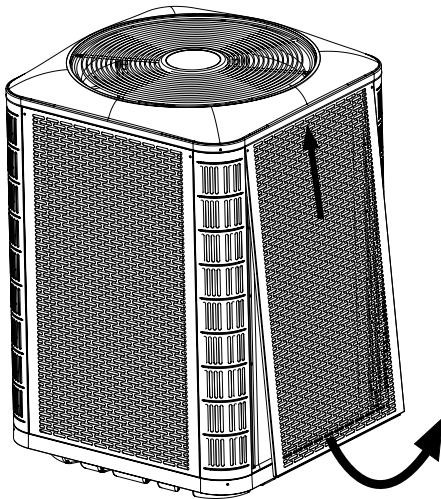
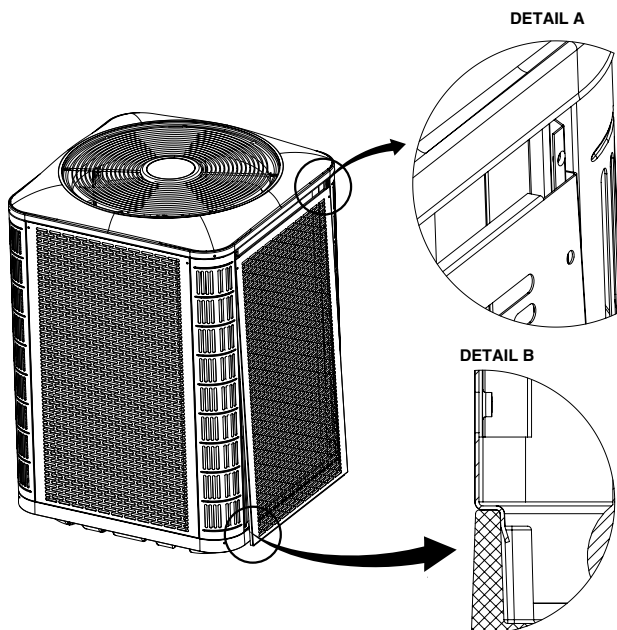

Figure 3. Panel Removal
Figure 4. Panel Installation
- To access the internal components of the unit, refer to Figure 3, \(page 6\) for panel removal and Figure 4, \(page 6\) for panel installation.
2. Slide the panel up towards the top pan in order to clear the bottom flange from the base pan. See Figure 3.
1. Insert the top corners of side panel flanges into the corner post channels as shown in Detail A in Figure 4.